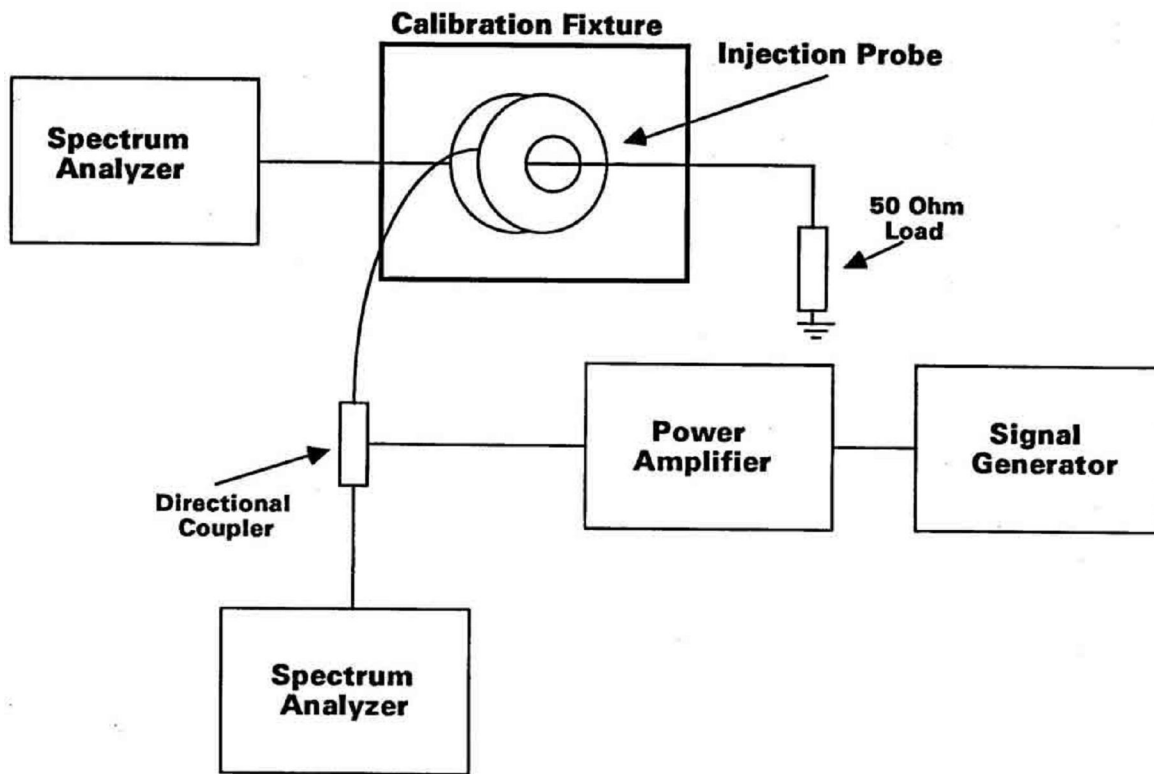

Figure 2
The limits of current are established in a "Precalibration Test Set Up". This test configuration is shown in Figure 2.
1) The injection probe will be clamped in the calibration fixture as shown in Figure 2.